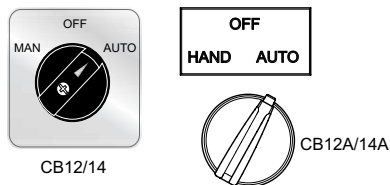

**Figure 18. Control Box Power ON Indicator**
3. Verify that the **ON** indicator lamp (Figure 18) on the control box is **LIT**. This means that power is being supplied to the control box.